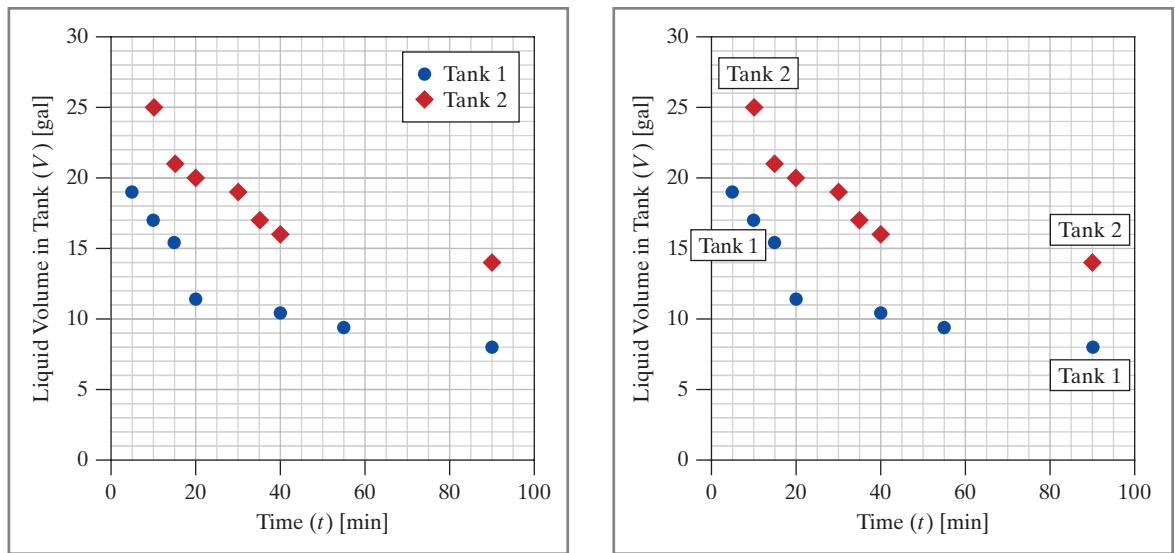

Figure 11-2 Options for displaying legends.
- **Provide a clear legend** describing each data set of multiple data sets shown. Do not use a legend for a single data set. Legends may be shown in a standalone box or captioned next to the data set. Both methods are shown in Figure 11-2.